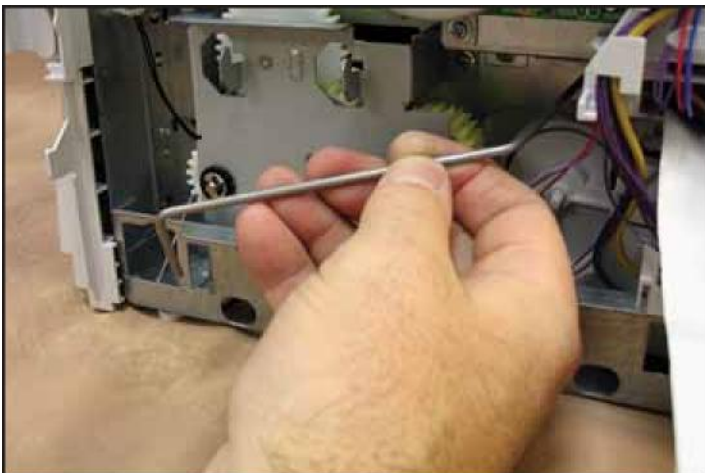

Figure 7 - Remove the switch rod.
5. Remove the switch rod (Figure 7).